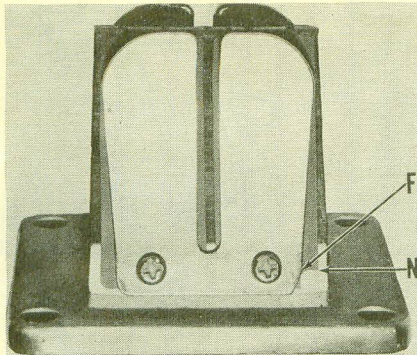

Fig. Y4-4—Notches in reed valve petal (F) and reed petal stop (N) must be adjacent on model RD200A.
- Needle jet (13) ..... N-6\*
- Valve needle (6) ..... 4D10
- Clip (5) in third groove from top of needle (6).
- Main jet (9) .....#94
- Pilot jet (14) .....#42
- Needle jet (13) ..... N-80
- Valve needle (6) ..... 4F51
Model RD200A is equipped with reed valve induction. Reed valve petals must be installed so that notch in petal (F—Fig. Y4-4) is next to notch (N) in reed petal stop.